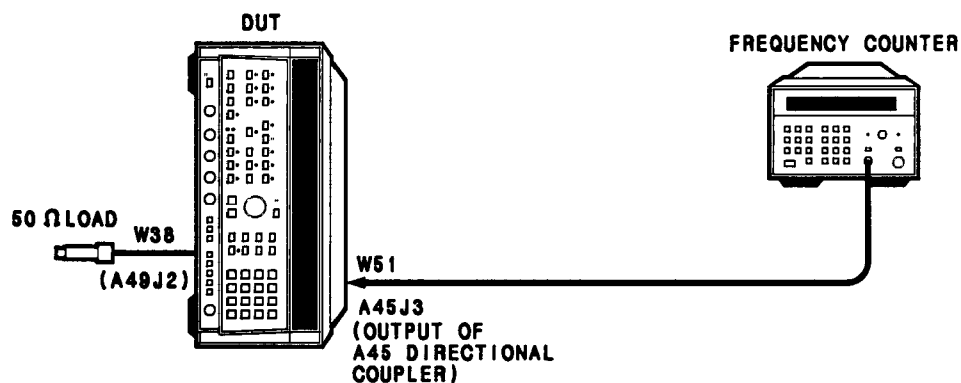
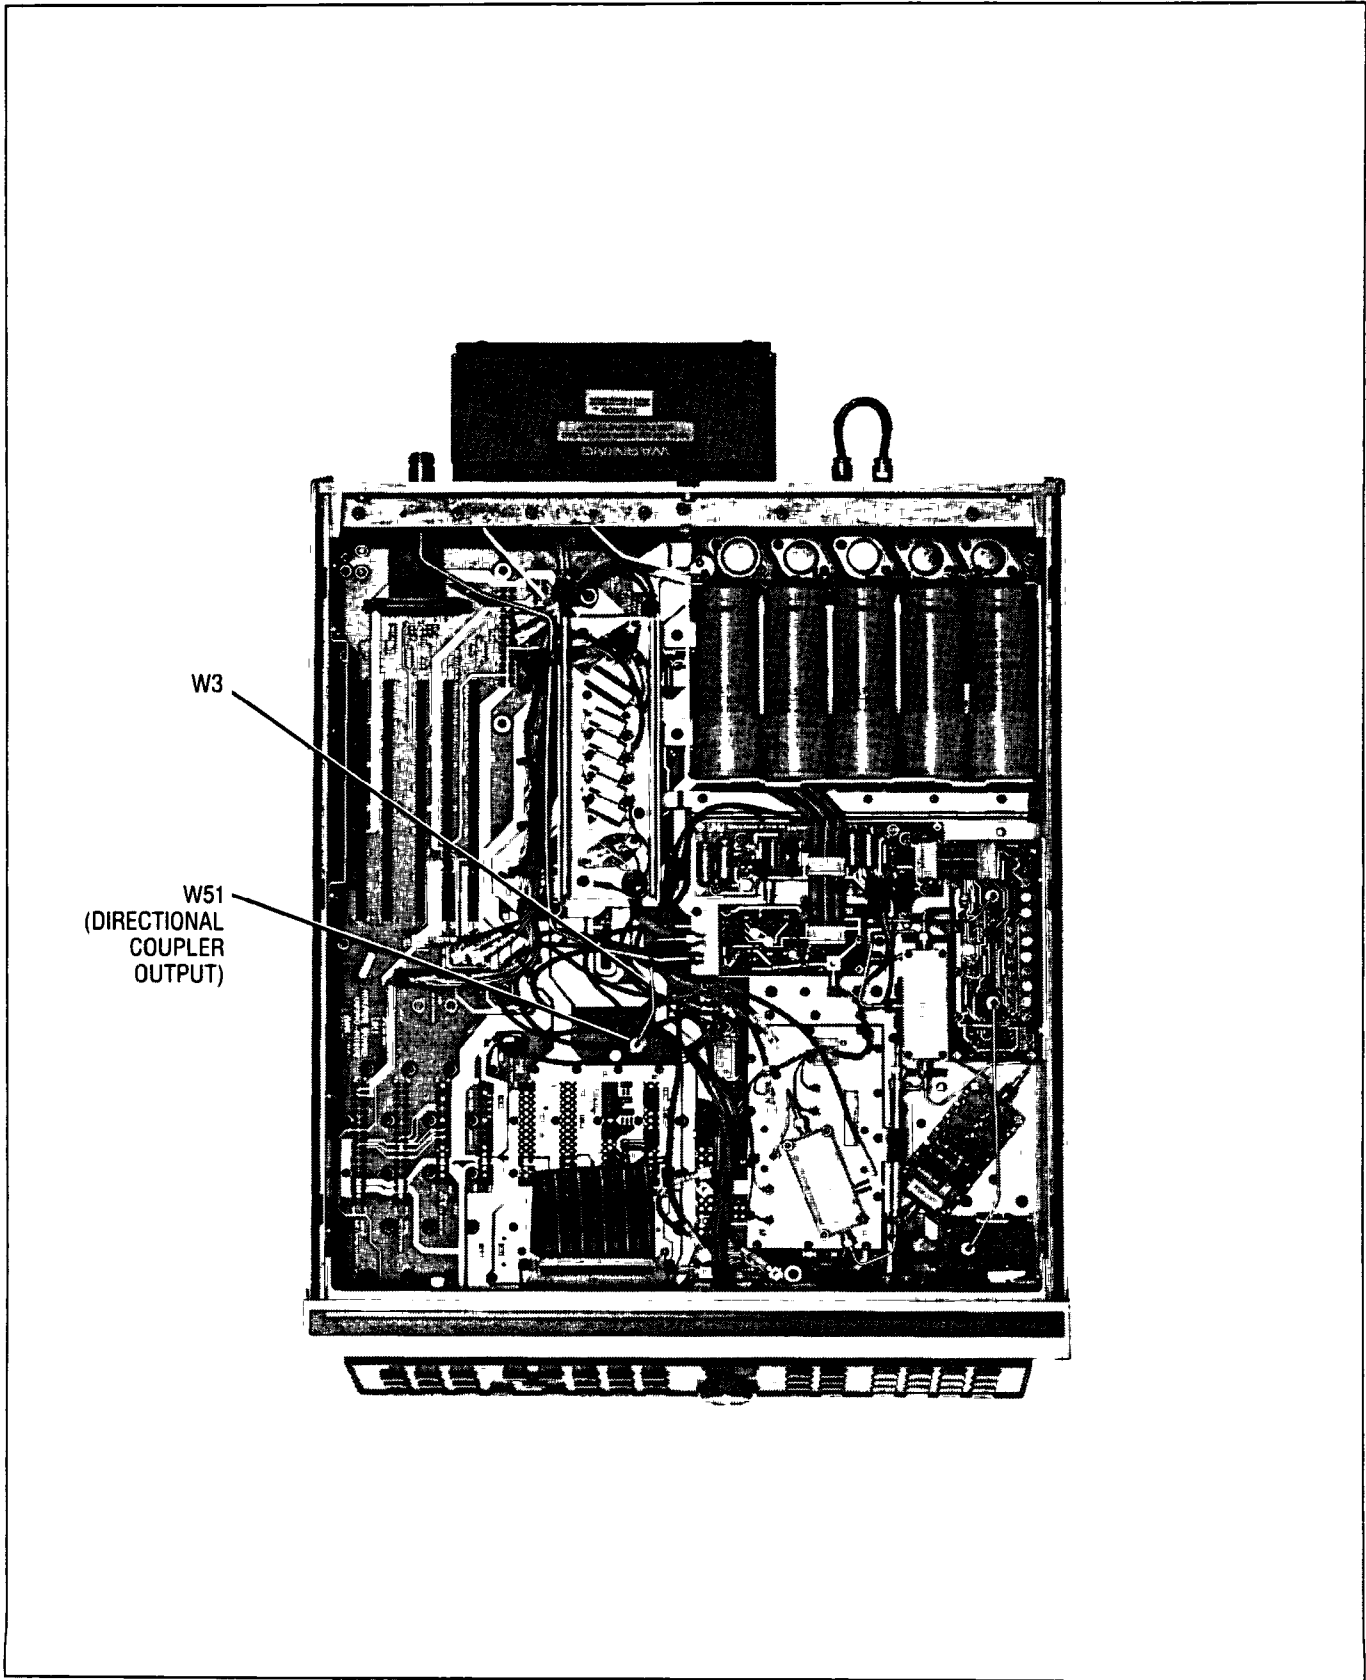

Figure 5-15. YO Main Driver A55 Test Setup
Figure 5-17. Top View, Cable Location
1. Position the DUT in the test position as shown in Figure 5-15 with top and bottom covers removed. Remove W3 (Figure 5-17) and connect the frequency counter to W51 as shown in Figure 5-15. Allow one-half hour for warm up time.
- Disconnect the Frequency Counter and reconnect W3 to W51 (Figure 5-17). Remove 50 Ohm load from cable W38 and reconnect the cable to A49J2.